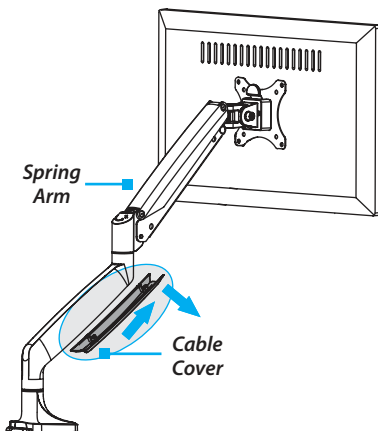

Figure 16
1. On the bottom portion of the **Spring Arm (1)**, slide the **Cable Cover** up and away from the **Spring Arm**. (*Figure 16*)